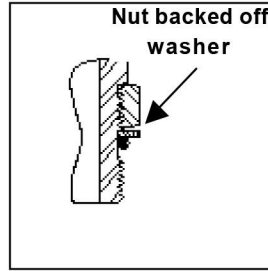

Fig.A6 Back off nut, install lubricated O-ring
3. Lubricate O-ring and threads with light oil or system fluid, install O-ring in groove on the fitting. See Fig.A6.